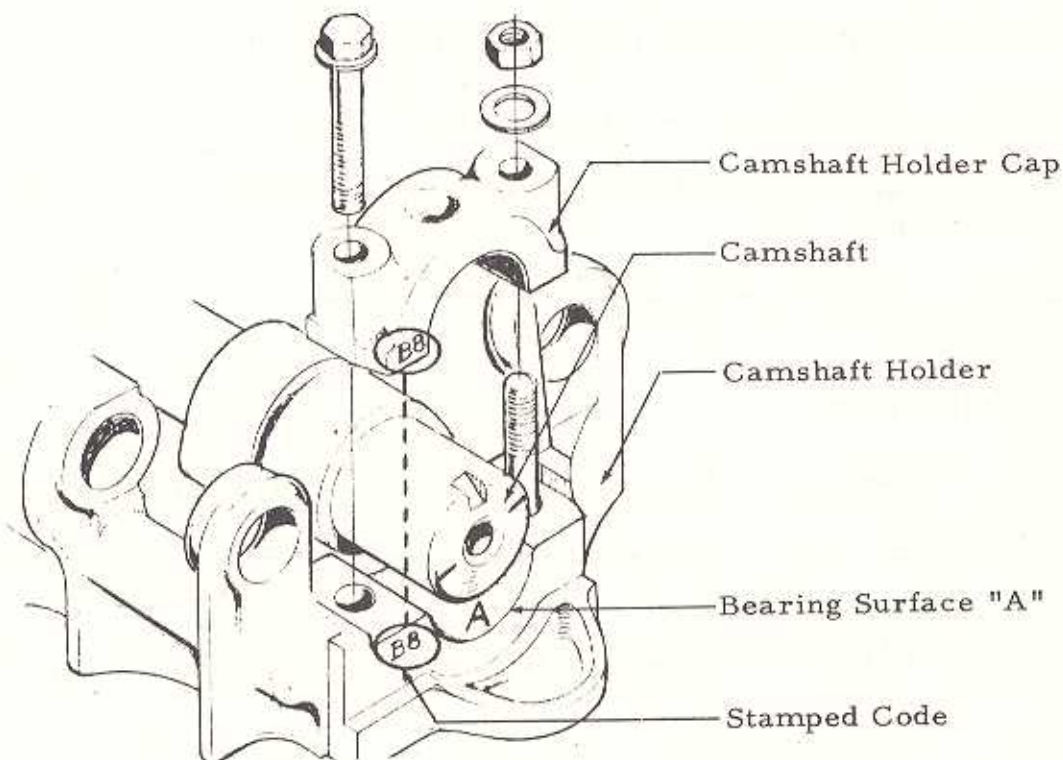

Fig. 1. Camshaft holder and cap showing code stamps.
The camshaft holder caps should be mounted on the camshaft holder so that the code stamp on the holder is adjacent to the matching stamp on the holder cap (see Fig. 1, above).
1. Install the camshaft holders in place on the cylinder head and apply oil to the bearing surfaces (Area A in Fig. 1).